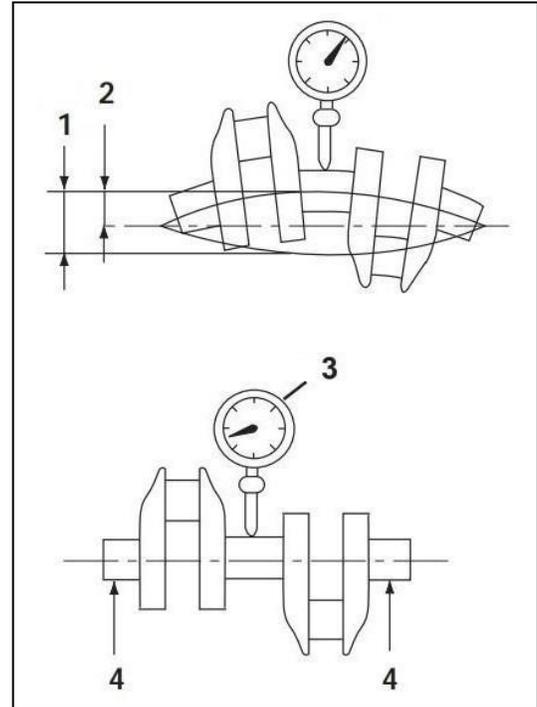

Figure 122
1. Place the crankshaft end journals (Figure 122, 4) on V-blocks.
2. Place a dial indicator (Figure 122, 3) on a center main bearing surface.